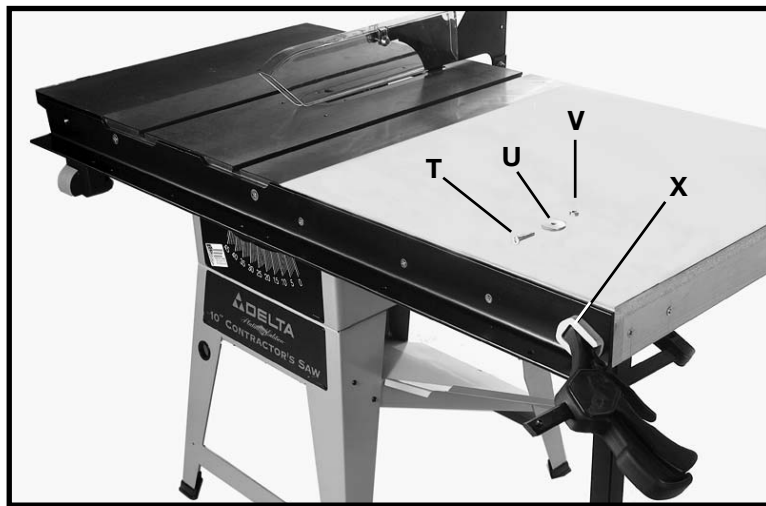

Fig. 87
11. After the holes have been drilled in the edge of the front and rear extension table board, fasten both front and rear rail to table using the 1-1/2" flat head Phillips screws (T) Fig. 87, 1-1/4" O.D. flat washers (U) and hex nuts (V). **NOTE:** The 1-1/4" flat washer cannot be used on the end holes (X) shown covered by clamp.